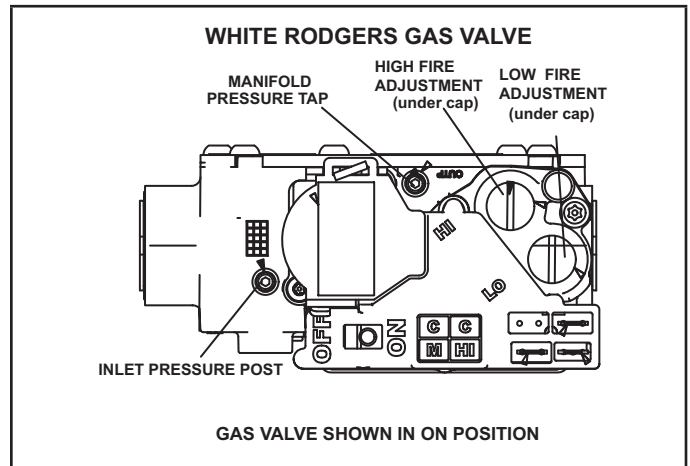
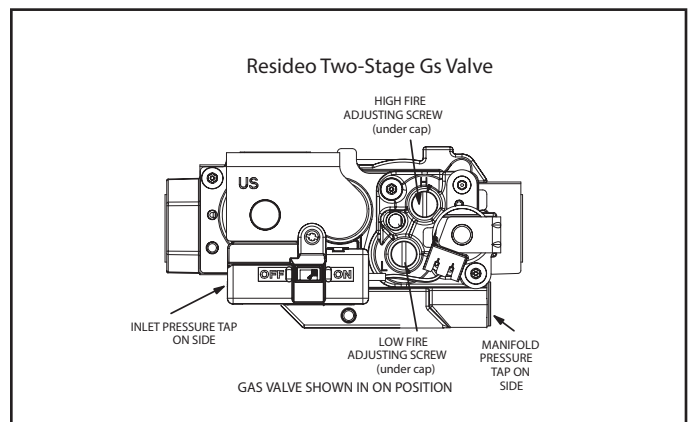

FIGURE 35
FIGURE 36
Gas Valve Operation (FIGURE 35 and FIGURE 36)
- 6 - Move switch on gas valve to OFF. Do not force. See FIGURE 35 and FIGURE 36.
8 - Move switch on gas valve to ON. Do not force. See FIGURE 35 and FIGURE 36.
An inlet post located on the gas valve provides access to the supply pressure. See FIGURE 35 and FIGURE 36. Back out the 3/32" hex screw one turn, connect a piece of 5/16" tubing and connect to a manometer to measure supply pressure. See TABLE 19 for supply line pressure.
A manifold pressure tap located on the gas valve provides access to the manifold pressure. See FIGURE 35 and FIGURE 36. Back out the 3/32 hex screw one turn, connect a piece of 5/16" tubing and connect to a manometer to measure manifold pressure.
- 1 - Connect test gauge to manifold pressure tap (FIGURE 35 and FIGURE 36) on gas valve.
- 4 - If necessary, make adjustments. FIGURE 35 and FIGURE 36 shows location of high fire and low fire adjustment screw.